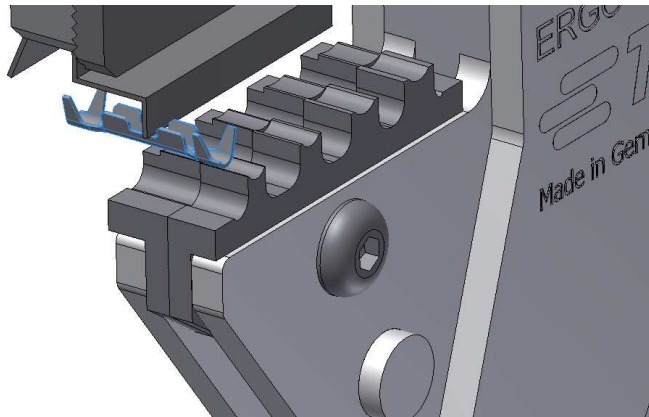

Abb. 7 : Positioning the contact
- Place a contact on the lower die as shown in Fig. 7.